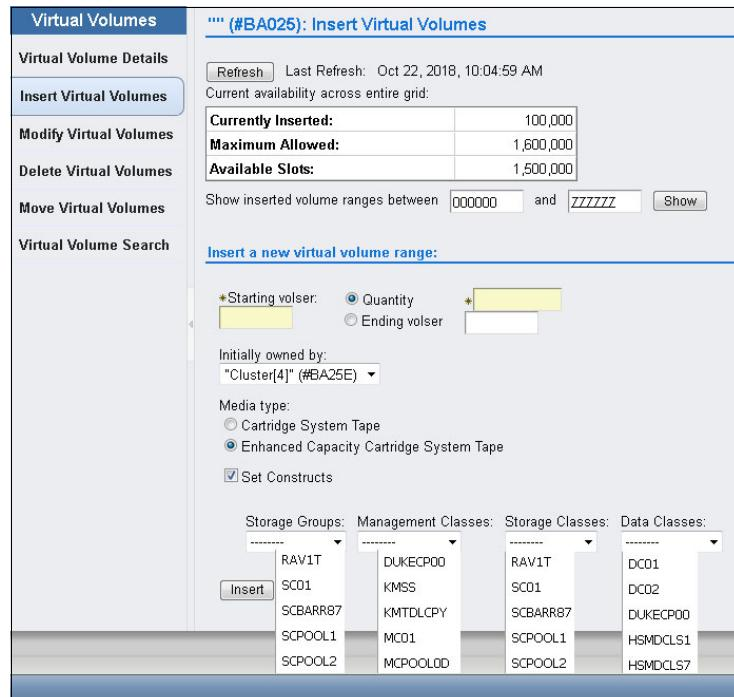

Figure B-2 Insert logical volumes by assigning static construct names
3. On the left side of the MI, click **Virtual** → **Virtual Volumes** → **Insert Virtual Volumes**. The window that is shown in Figure B-2 on page 907 opens. Use the window to insert virtual volumes. Select the **Set Constructs** option and enter the construct names.